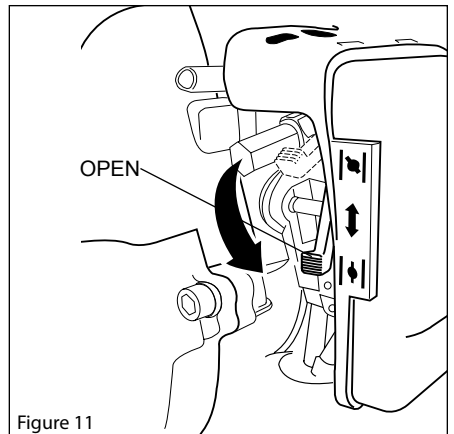

Figure 11
5. When the engine starts, slowly move the choke lever to the “OPEN” position. See Figure 11. (If the engine stops after the initial start, close the choke and restart.)